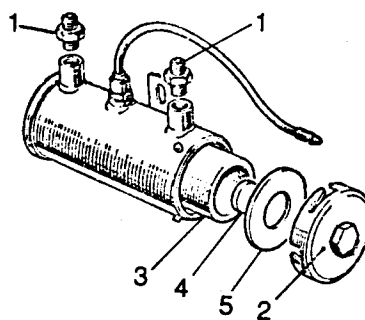

Fig C6.4
- (1) Refer to Fig C6.4. Remove the inlet and outlet unions (1).
- (2) Release the end cover (2) from the bayonet fixing.
- (3) Withdraw the filter (3) from the pump body.
- (4) Clean the filter by blowing clean, dry air through the filter from the inside.
- (5) Remove the magnet (4) from the end cover and clean with a petrol moistened, lint-free cloth.